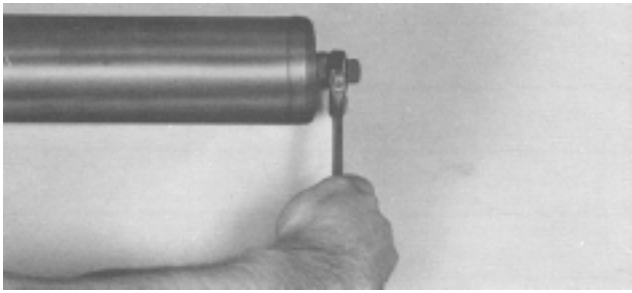

Figure 35
4. Slide one (1) sleeve onto roller shaft against double jam nuts.
6. Pour approximately one (1) pint (16 ounces [0.0296 l) of SAE 90 or 140 gear oil into the roller housing.
9. Install elastic stop nut and secure by holding double jam nuts. Tighten elastic stop nut (Fig. 35).